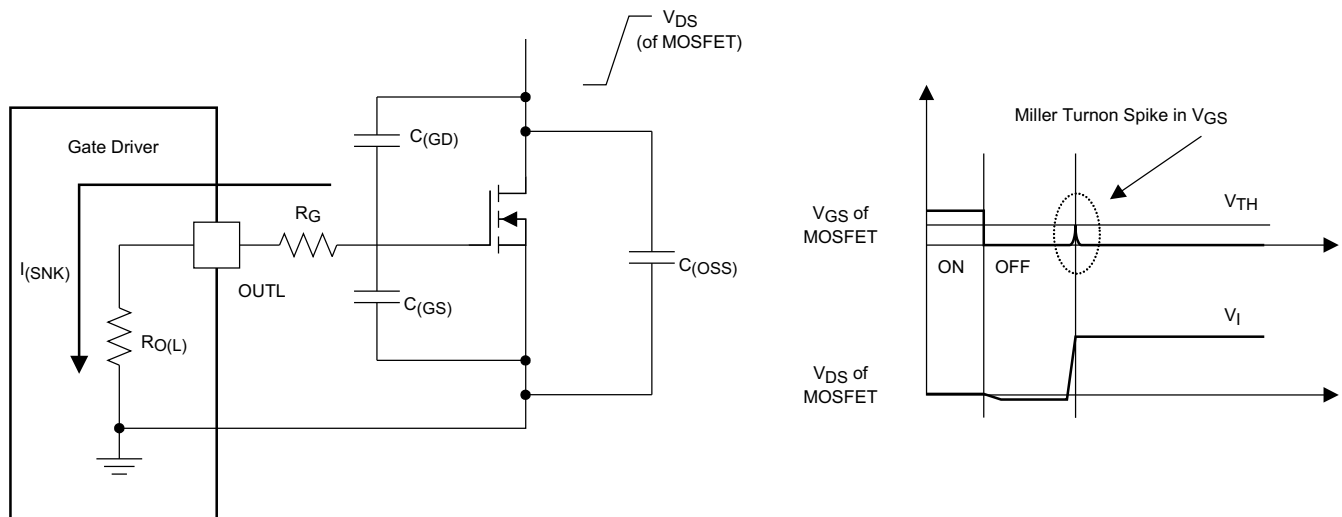

Figure 6-6. Very-Low Pulldown Impedance in UCC27511A-Q1, 4-A and 8-A Asymmetrical Drive (Output Stage Mitigates Miller Turnon Effect)
An example of a situation where the Miller turnon effect is a concern is synchronous rectification (SR). In an SR application, the dV/dt occurs on the MOSFET drain when the MOSFET is already held in off state by the gate driver. The current discharging the $C_{(GD)}$ Miller capacitance during this dV/dt is shunted by the pulldown stage of the driver. If the pulldown impedance is not low enough then a voltage spike can result in the V_{GS} of the MOSFET, which can result in spurious turnon. This phenomenon is shown in Figure 6-6. The UCC27511A-Q1 device offers a best-in-class, 0.375-Ω (typ) pulldown impedance boosting immunity against Miller turnon.